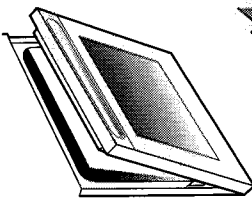

Fig. 1
1. Position top oven door as shown in Fig. 1. **NOTE:** The door can be wedged open using a towel between the door and the side trim thus leaving your hands free.